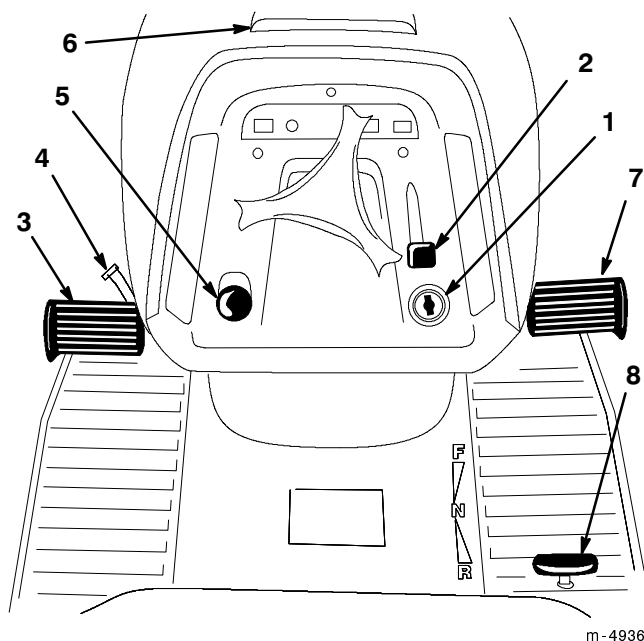

Figure 1
Become familiar with all the controls (Fig. 1) before you start the engine and operate the machine.
1. Push the brake pedal (Fig. 1) down and hold it in the depressed position.
2. Turn the parking brake lever (Fig. 1) counterclockwise and gradually take your foot off the brake pedal. The brake pedal should stay in the depressed (locked) position.
1. Push down on the brake pedal (Fig. 1). The parking brake lever should release.